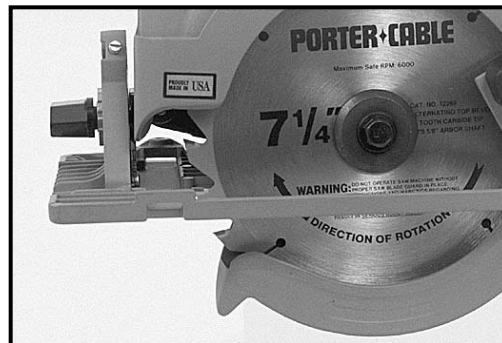

Fig. 2
3. Clean inner blade flange, retract telescoping guard, and place sharp blade on arbor making sure teeth point up at front of saw as shown in Fig. 2.